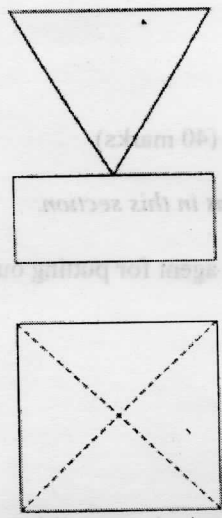

Figure 2
- 10 Figure 2 shows orthographic view of a component.
Figure 2 shows different micrometer and vernier caliper readings. Determine the readings and show how each is obtained.